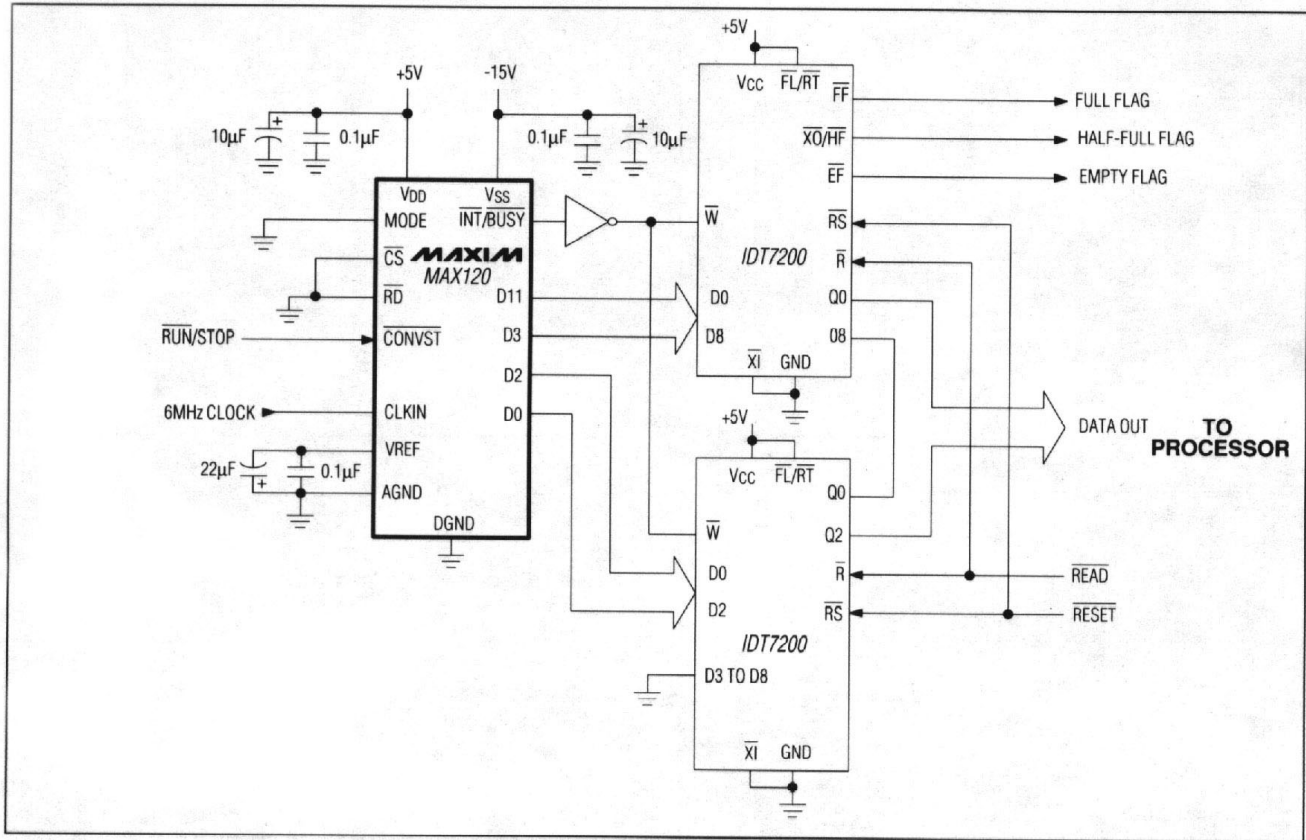

Figure 13. Using MAX120 with FIFO Memory
Using FIFO memory to buffer blocks of data from the MAX120 reduces μ P interrupt overhead time by enabling the μ P to process data while the MAX120, unassisted, writes conversion results to the FIFO. To retrieve a block of data, the μ P reads from the FIFO via a read-interrupt cycle. Read and write operations for the FIFO are completely asynchronous. Figure 13 shows the MAX120 operating in continuous-conversion mode (mode 5), writing data directly into the two IDT7200 256 x 9 FIFO buffers at the rate of 428kps. The μ P is interrupted to read the accumulated data by the FIFO's half-full (HF) flag approximately three times per millisecond. For operation at 500kps, use an 8MHz clock, and pulse CONVST at 500kHz. The full flag (FF) indicates that the FIFO is full. If this flag is ignored, data may be lost. If necessary, conversions can be inhibited by pulling \overline{CS} , \overline{RD} , or \overline{CONVST} high. The FIFO's read cycle times are as fast as 15ns, satisfying most system speed requirements. The RESET input resets all data in the FIFO to zero.